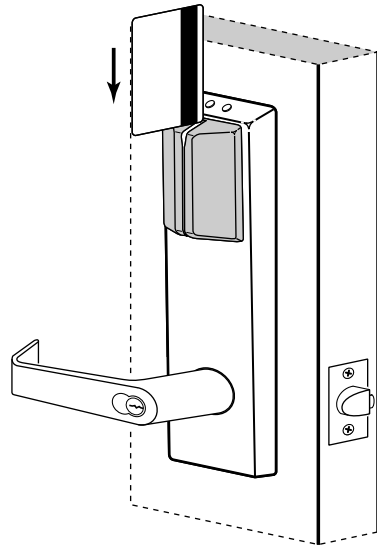

Figure 18a Using the temporary operator card with a magnetic stripe card reader
- 1 With the magnetic stripe facing towards the right, swipe the temporary operator card, as shown in Figure 18a.